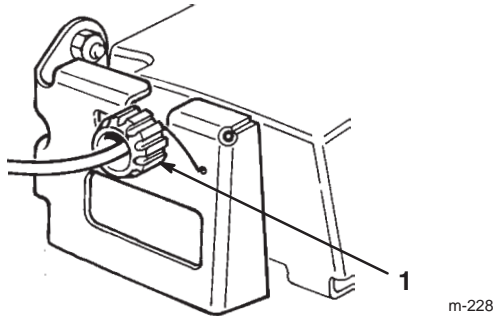

Figure 30
2. Rotate the control knob clockwise 1/2 turn if the lawn mower does not self-propel. If the lawn mower creeps forward, rotate the knob 1/2 turn counterclockwise to loosen the belt (Fig. 30).